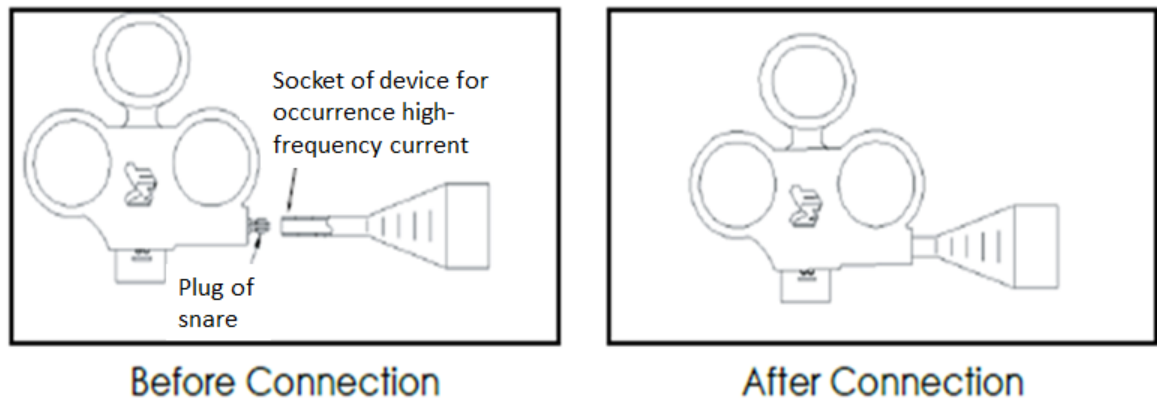

Figure. 4
3. Connect the plug of Sterile Hot Snare to the socket of high-frequency electrosurgical unit. Pay attention to the correct connection (as shown in the following figure 4).